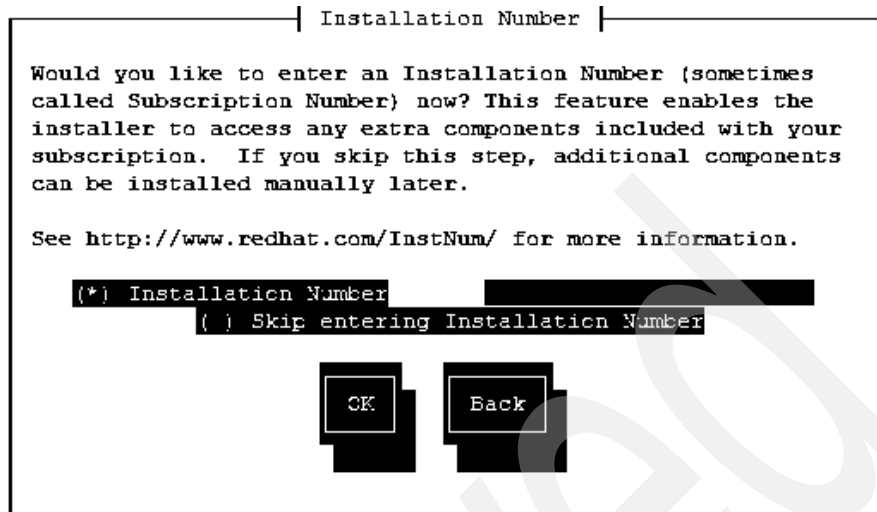

Figure 8-15 Installation number panel
10. Enter the installation number (Figure 8-15 on page 340); select **OK** to confirm.